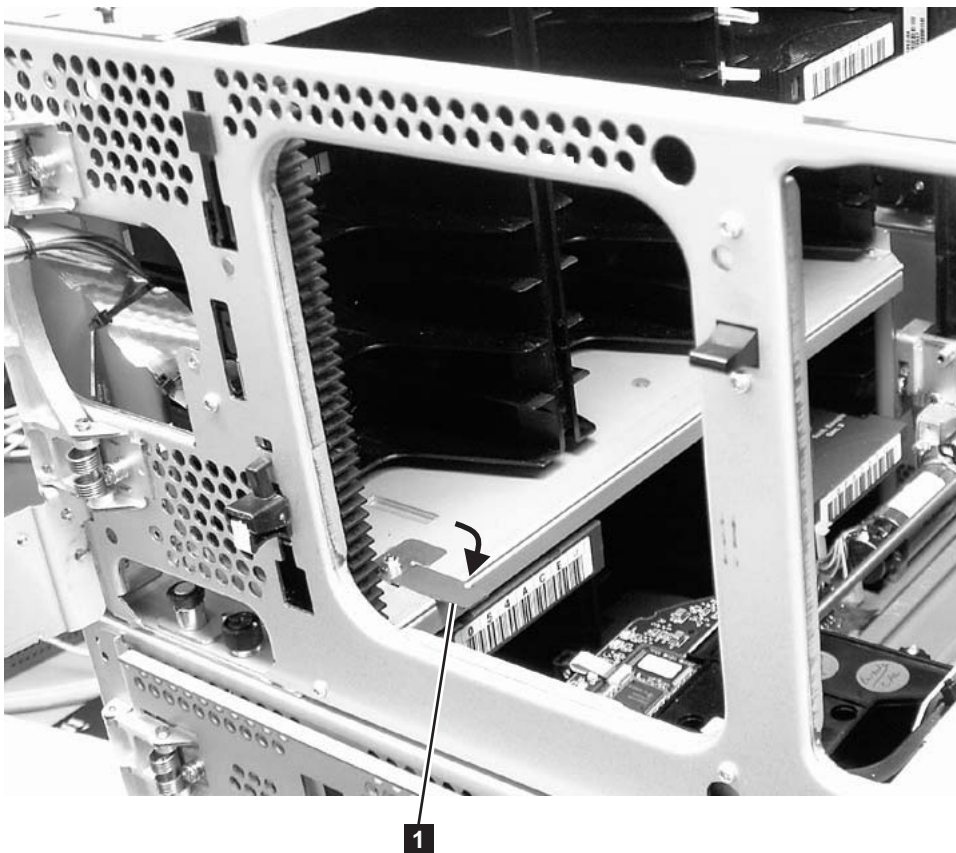

Figure 3-6. Picker locking mechanism
1. Engage the picker assembly lock mechanism (**1** in Figure 3-6). You may need to lift the picker assembly to fully engage the lock mechanism.